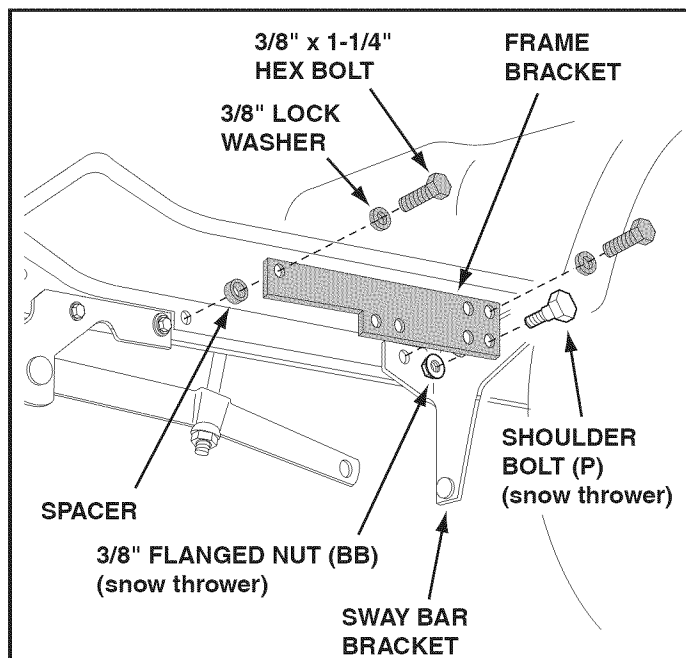

FIGURE 7 LEFT SIDE VIEW
STEP 7: (SEE FIGURE 7)
- Assemble a shoulder bolt (P) and a 3/8" flanged nut (BB) (both supplied with the snow thrower) to the frame bracket.